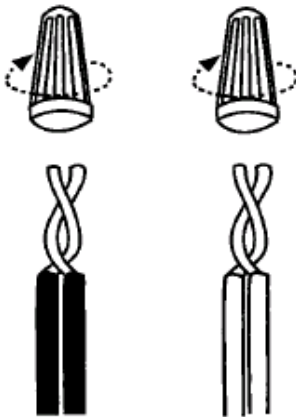

Figure 8. Field and Air Handler Wire Connections.
4. Using UL listed wire nuts, connect the field supply wires to the air handler; black-to-black, and yellow-to-yellow (240V) or white-to-white (120V), as shown in Figure 8.